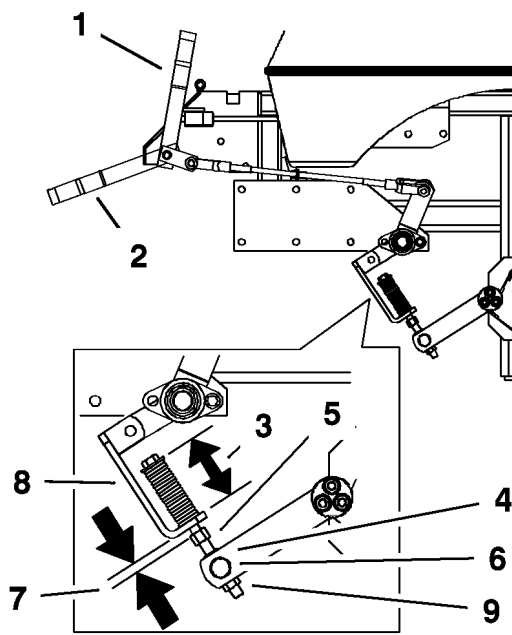

Figure 53
2. Measure the length of the spring. The measurement should be 2-3/4 inch (70 mm) between the washers (Figure 53).
3. If an adjustment is necessary, loosen the jam nut below the spring and tighten the nut directly below the yoke (Figure 53). Turn the nut until the correct measurement is obtained. Tighten the two nuts together and repeat on the opposite side of the unit.
6. Measure the distance between the spring bracket and the adjusting nut under spring bracket. The measurement should be 1/4-5/16 inch (5-8 mm) (Figure 53).
7. If an adjustment is necessary, loosen the jam nut directly above the trunion roller. Turn the lock nut below the trunion roller until the correct measurement is obtained (Figure 53).
8. Tighten the jam nut directly above the trunion roller (Figure 53).